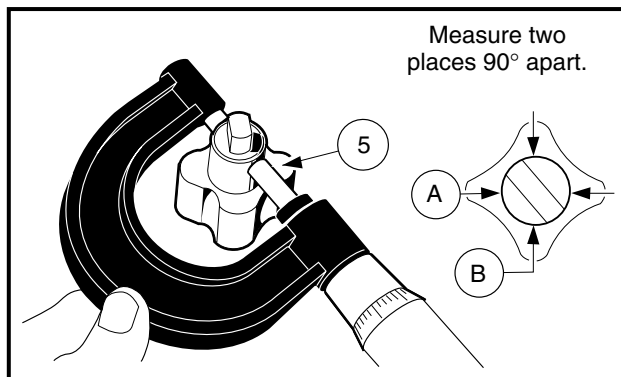

Figure 2-61 Measure Pump Shaft Bearing Surface
- 4.1. Measure the pump shaft bearing surface. Replace both rotors as a set if the measurement is less than 0.4971 inch (12.627 mm) (**Figure 2-61, Page 2-29**).